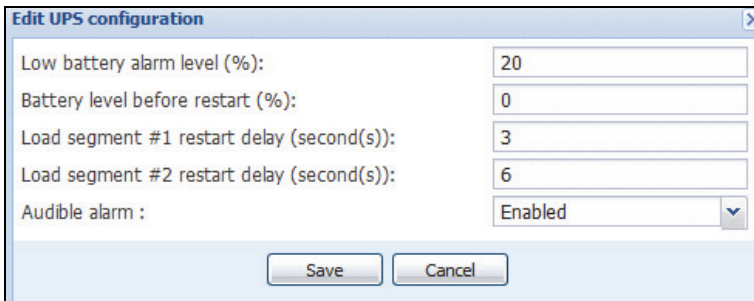

Figure 21. Edit UPS Configuration Dialog Box
- 3 Click **Edit UPS configuration**. The Edit UPS Configuration dialog box displays (see Figure 21).